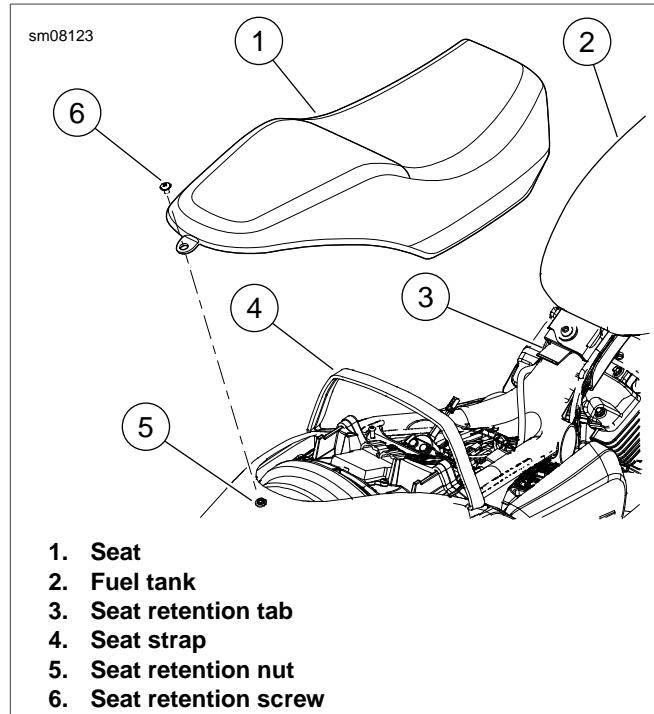

Figure 52. Seat Removal
1. See Figure 52. Remove seat retention screw (6).
2. Slide seat (1) rearward to release from seat retention tab (3).
3. Slide seat forward and above fuel tank (2).
4. Pull seat forward through seat strap (4).
1. See Figure 52. Insert rear of seat (1) through seat strap (4).
2. Slide seat forward and on to seat retention tab (3).
3. Install seat retention screw (6). Tighten to 2.3-4.5 Nm (20.3-40.0 **in-lbs**).